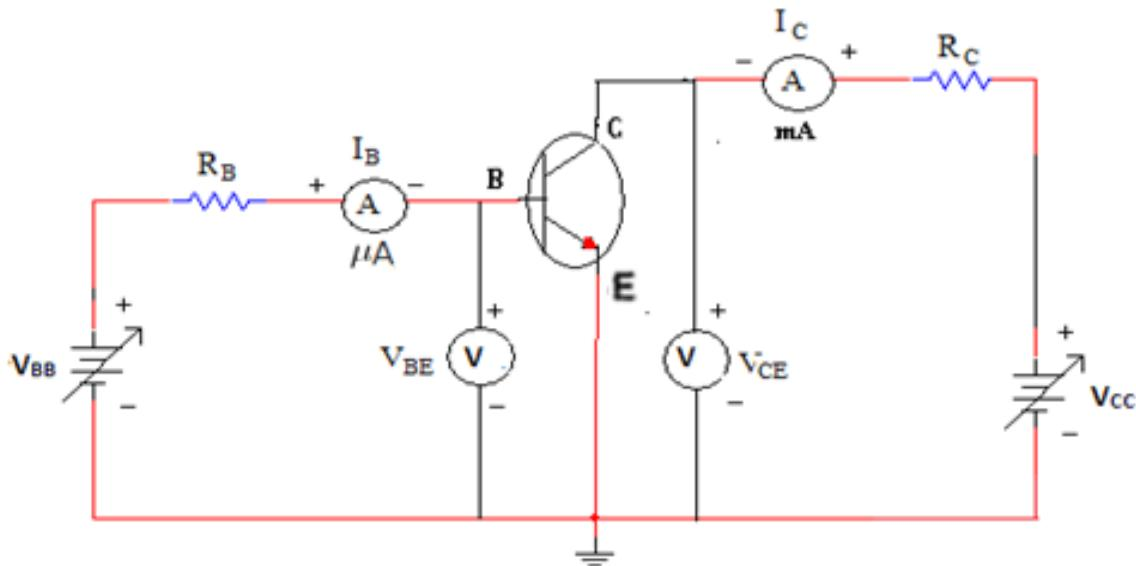

Fig. 3.11 Circuit arrangement for determining common base transistor characteristics
- These curves may be obtained by using the circuit arrangement as shown in Fig. 3.11.
- These characteristics may be obtained by using the circuit shown in Fig. 3.11.